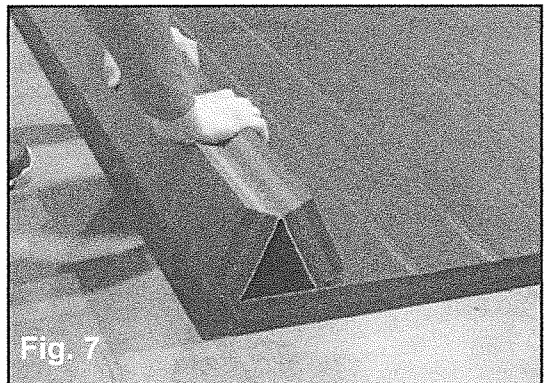

Fig. 7
**1** Remove all tape. Roll the mats back up, vinyl side in. Begin rolling by folding one section over to form a triangle (fig. 7). Make sure to keep the mat tight.